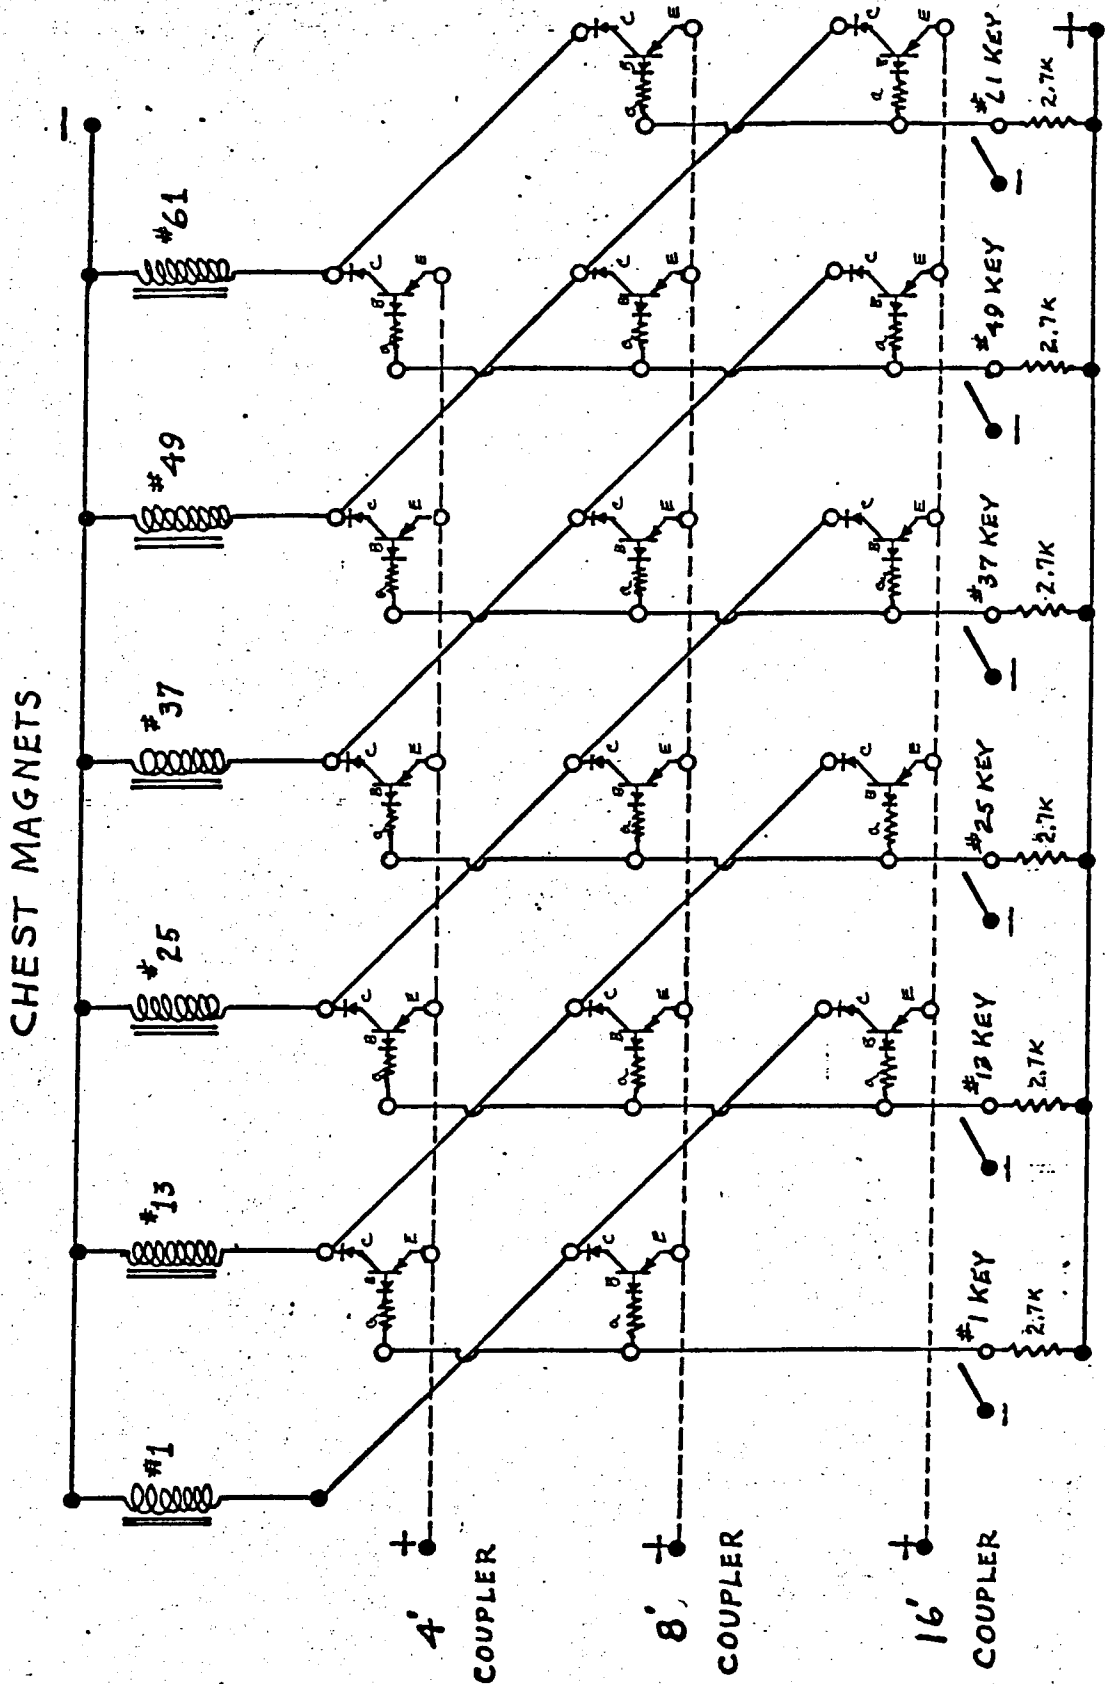

Fig. 7
- 5. Complete solid state switch connected to keys, magnets and switch cards plugged into circuit card. (Fig. 7)
- (a) Referring to Fig. 2 and Fig. 7, it can be seen that Fig. 7 is Fig. 2 in multiple. When a positive voltage is applied, for example, to the 8' coupler wire, all transistor emitters which are connected to this wire are energized positively. Since the base of all transistors are biased positive through the resistors a and b, no transistors will conduct. When a negative voltage is applied to the base of the transistors by the key contact, the base of the transistor will go negative allowing the transistor to conduct through the collector and its diode on to the chest magnet, thereby operating that particular magnet. All other transistors connected to that magnet will not conduct since the diode connected to the collector prevents current flowing in the opposite direction through to the collector. Any combination or all couplers can be turned on at the same time and the transistors associated with these couplers will operate when any of the keys are depressed which causes the transistors to conduct, thereby operating the individual magnets.